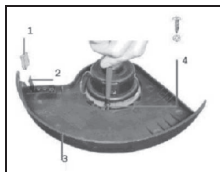

Fig.2
7.2. Attach the protective cover to the lower part of the trimmer and fasten it with the provided screws (4) (see Fig. 2). There is a special blade (2) attached to the cover with a transportation rubber protection (1).